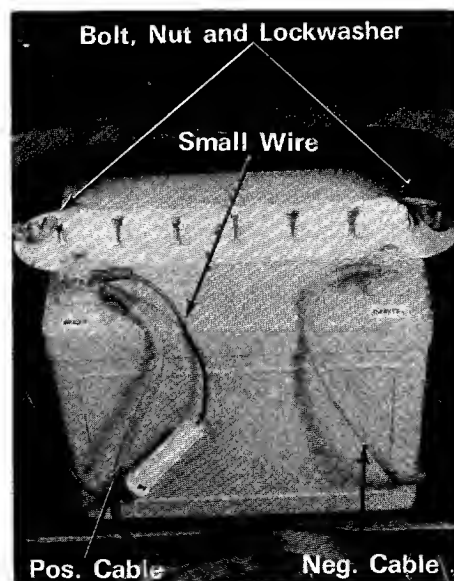

Figure 4
- 3 Secure the hold down with the wing nuts and washers. Tighten hand tight. (See figure 4.)
- 4 Attach the positive cable (from the starter switch) and the small wire (from the ammeter) to the positive battery terminal with the bolt, lockwasher and nut in the assembly pack. (See figure 4.)